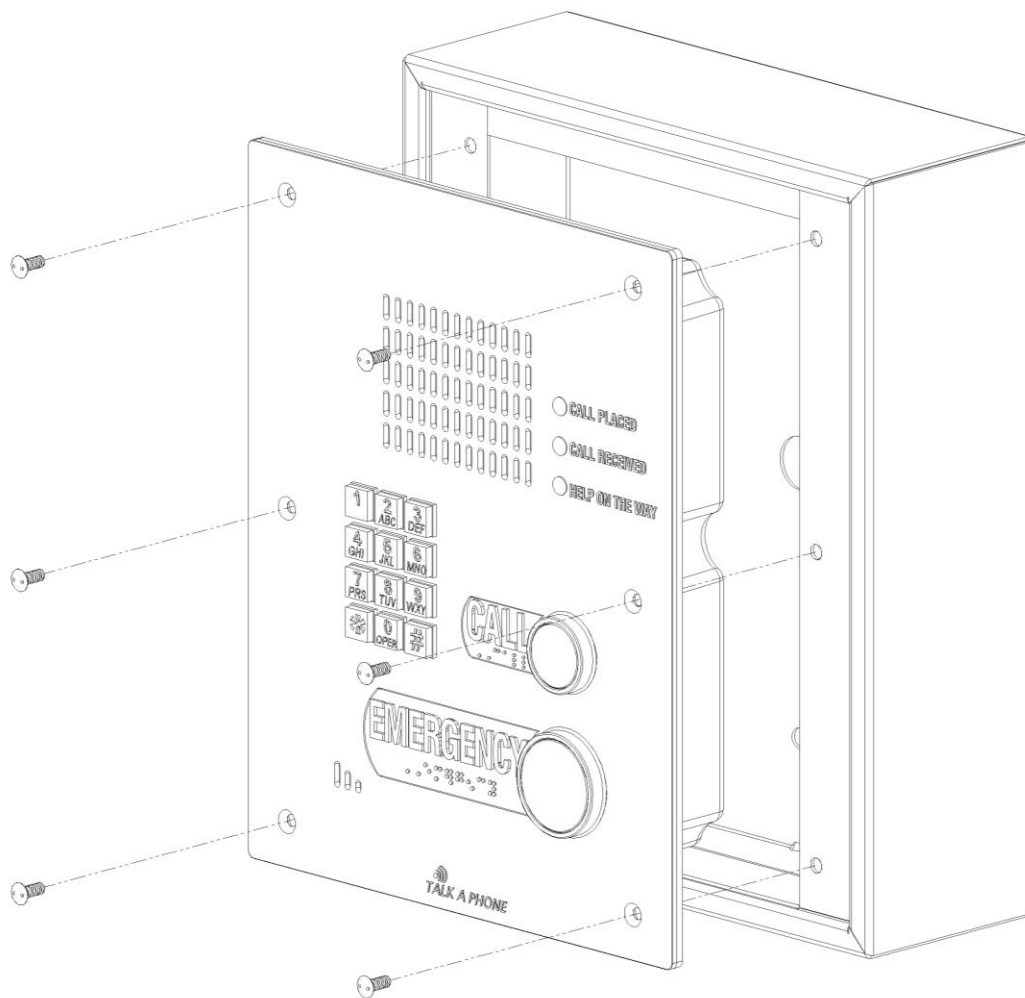

Figure 7 - Installation of VOIP-500K into an ETP-SM
Install the **VOIP-500 Series Phone** into its appropriate mount (e.g. **ETP-SM**, as shown in **Figure 7**), with the six (6) tamper resistant #10 faceplate screws provided.